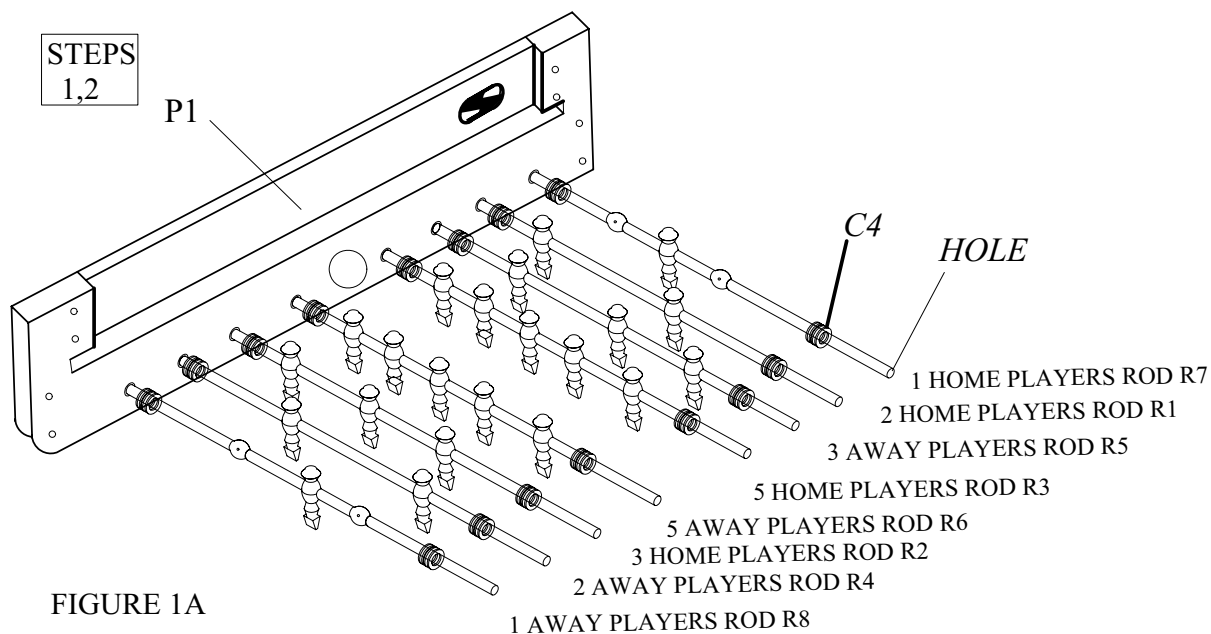

FIGURE 1A
- 1** CUT CORNERS OF THE BOX TOP AND PLACE IT ON THE FLOOR TO PROTECT THE PARTS AS THE UNIT IS BEING ASSEMBLED. PLACE SIDE PANELS ***P1*** UPSIDE DOWN WITH THE SLOT FACING INWARD AS SHOWN IN ***FIGURE 1A***. (BALL ENTRY HOLE WILL BE CLOSEST TO THE FLOOR.) TO EASE ASSEMBLY PUSH THE PRE-ASSEMBLED BUSHINGS AND PLASTIC WASHERS ON THE RODS UP AGAINST THE MEN. AT THIS TIME DO NOT CUT THE RUBBER BANDS THAT HOLD THE ASSEMBLY TOGETHER. ALIGN THE RODS AS SHOWN IN ***FIGURE 1A***. THE HANDLE ENDS OF THE RODS ARE THE ENDS WITH THE HOLES APPROX. 1/2" FROM THE END.
- 2** INSERT THE RODS THROUGH THE ROD BUSHINGS IN ONE SIDE PANEL AS SHOWN IN ***FIGURE 1A***.